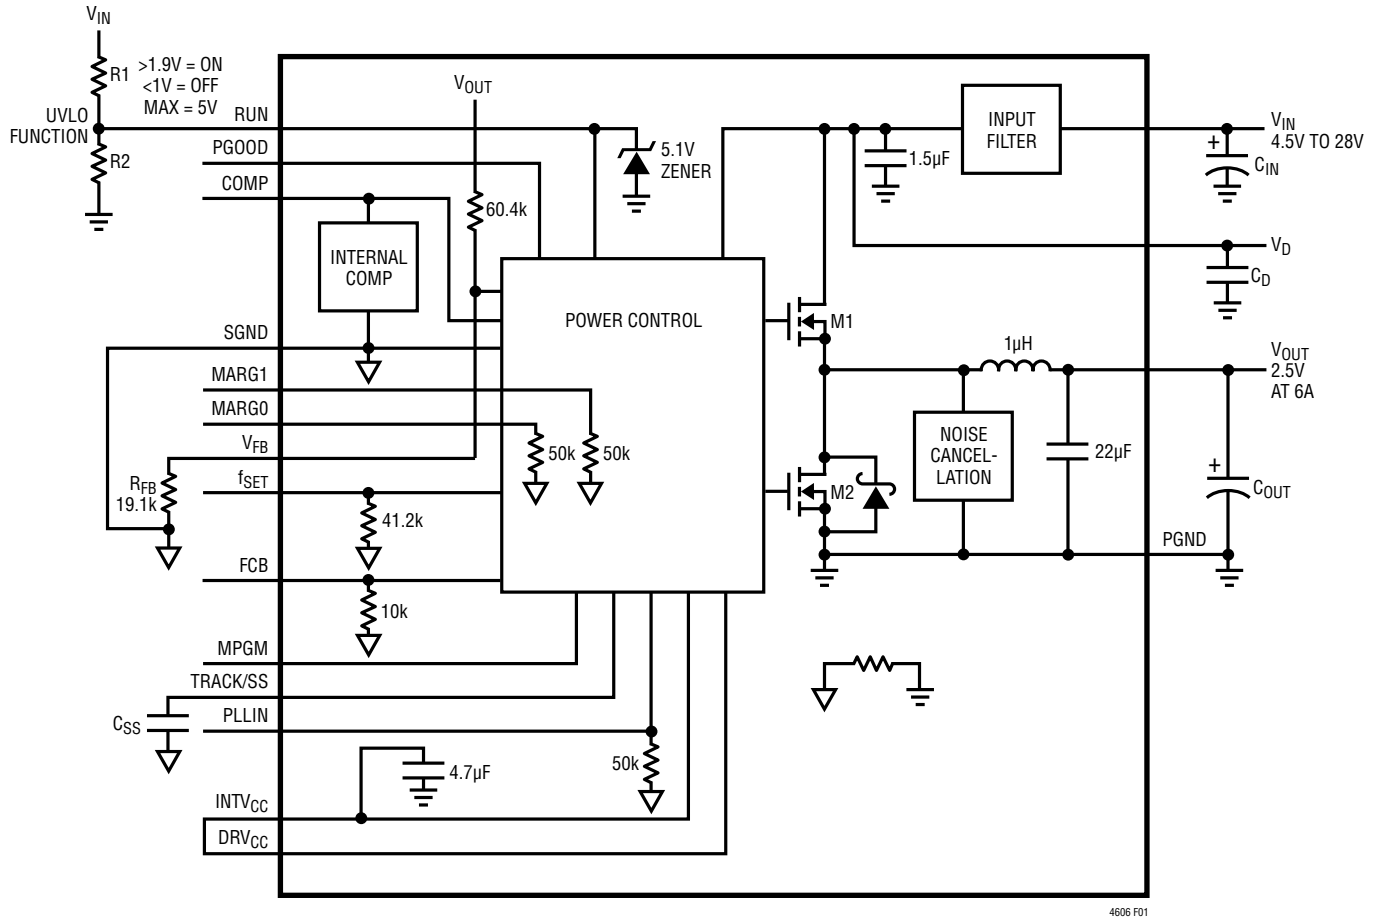

Figure 1. Simplified Block Diagram
**RUN (Pins A10, B9):** Run Control Pins. A voltage above 1.9V will turn on the module, and below 1V will turn off the module. A programmable UVLO function can be accomplished with a resistor divider from VIN to ground. See Figure 1. This pin has a 5.1V Zener to ground. Maximum pin voltage is 5V. Limit current into the RUN pin to less than 1mA.
$T_A = 25^\circ\text{C}$ . Use Figure 1 configuration.
See Figure 1, Simplified Block Diagram.